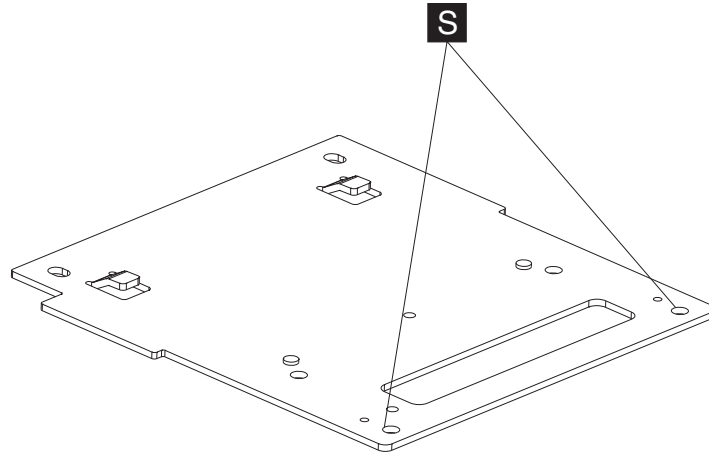

Figure 42. Attaching the base foot to the countertop
3. Use the SurePOS 500 base plate as a pattern for drilling two mounting-screw holes at location **S** in Figure 42 on page 73. If you plan to route the cables underneath the counter, use the base plate as a pattern to drill the cable opening and for drilling the holes for the mounting screws.